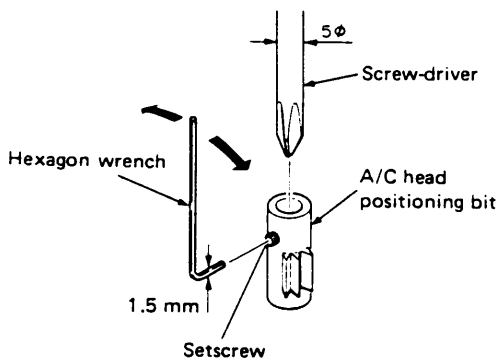

Fig. 1-2-1 A/C head positioning tool
- The installation of a A/C head positioning bit on the screw-driver.Refer to Fig. 1-2-1. Set screw-driver into the A/C head positioning bit where it does not interfere with adjusting the A/C head adjusting boss (position the screw-driver point  $6 \pm 2$  mm from point of the A/C head positioning bit). Slightly tighten the setscrew by hexagon-wrench (1.5 mm).